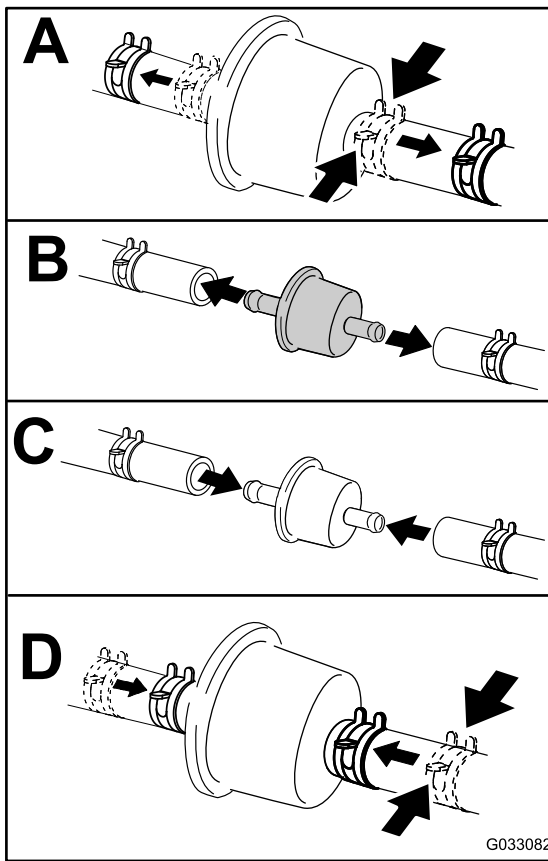

Figure 49
5. Replace the fuel filter (Figure 49).